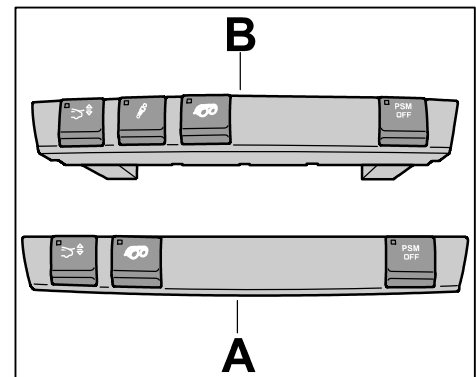

Figure 30
- 11.3.6 Install new switch for sports exhaust system (⇒ 997.613.129.00 FMH; ⇒ *Figure 30 -A-* or ⇒ 997.613.131.00 FMH; ⇒ *Figure 30 -B-*) depending on vehicle equipment (with or without PASM – I No. 475) in the centre console area ⇒ *Workshop Manual '962719 Removing and installing switch console – section on "Installing"* and install oddments tray ⇒ *Workshop Manual '681619 Removing and installing oddments tray – section on "Installing"*.